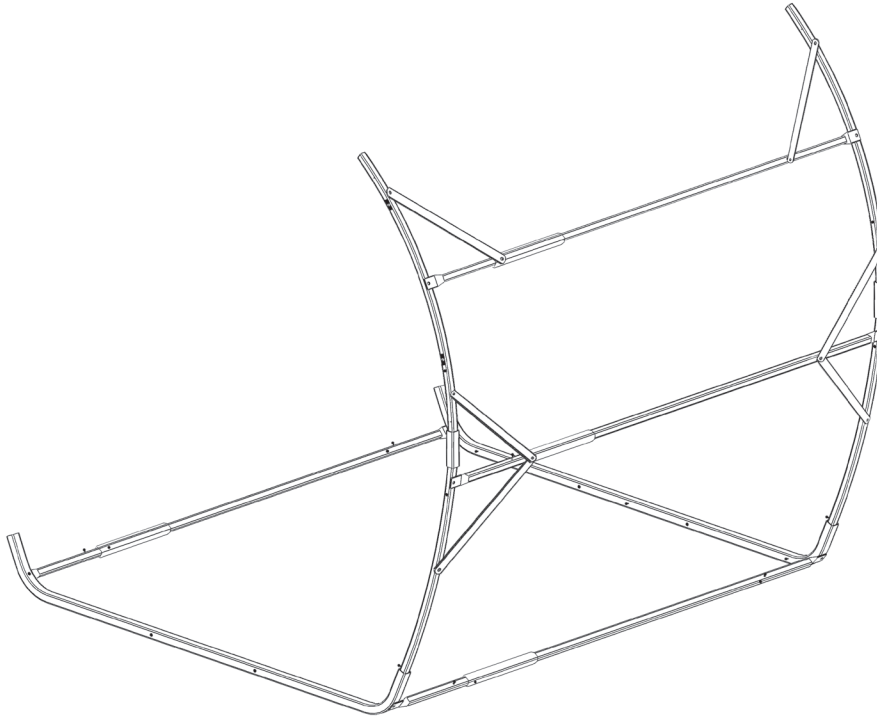

Figure 18.1
STEP 10: Install Section 2 that was created in Step 9, into Section 1 that was created in Step 7, resulting in the frame illustrated in Figure 18.1. Using the hardware connection in (2) places, align and fasten the (2) CROSS MEMBER BRACES "G" from Section 1 onto the corresponding holes on Section 2 with (2) Bolts and (2) Nuts, resulting in the frame illustrated in Figure 18.1.